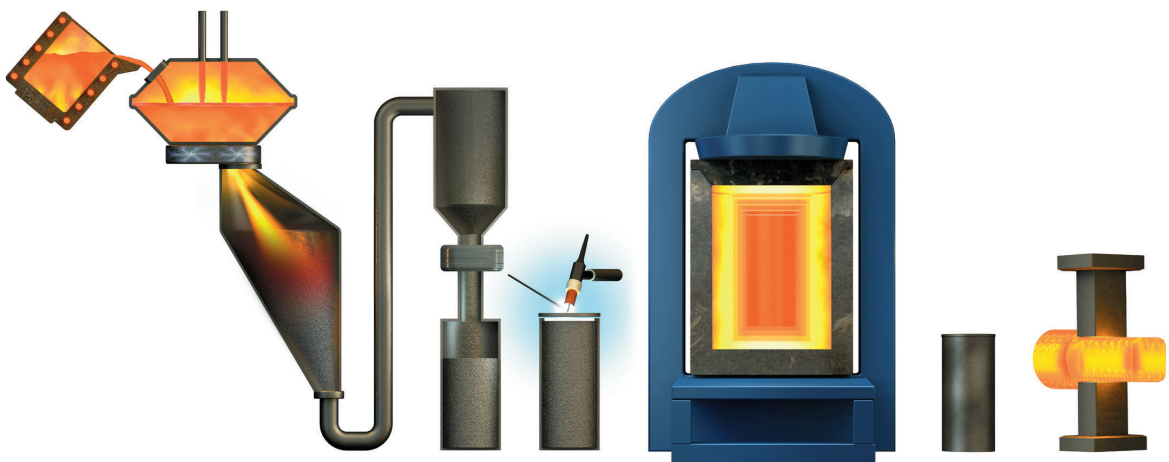

Figure 6. Schematic representation of the powder metallurgy (PM) route for producing tool steel.
To avoid segregations and large carbides with their detrimental effect on fatigue life, a totally different way of producing tool steel ingots has to be used. The powder metallurgy (PM) route is the industrial process used to produce macro-segregation free ingots of high alloy tool steel. The PM route is shown schematically in Figure 6. The melt is atomized and the resulting tiny droplets solidify very rapidly to form a powder. The powder is hot isostatically pressed in a capsule. The ingot so produced is then ready for hot working (forging and rolling) into bar form. The PM steel are fully wrought products.